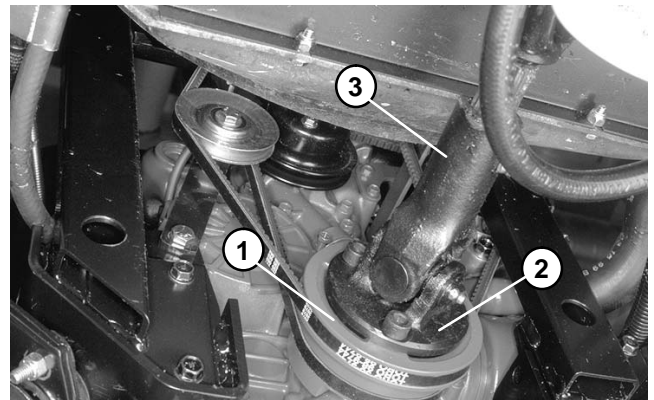

Figure 25
4. Disconnect yoke flange from the lower fan belt pulley (Fig. 25).
12. Secure yoke flange to the lower fan belt pulley with three socket head screws and lock washers (Fig. 25).